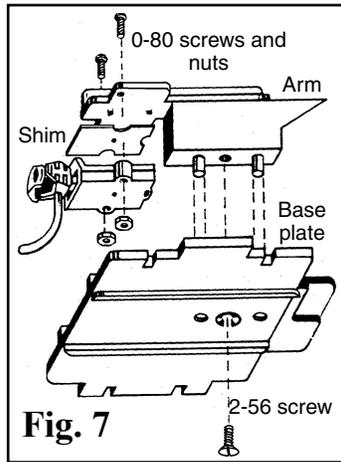

Fig. 7
to complete the assembly of the S-Scale height gauge. See Fig. 7. 8. Using the 2-56 screw enclosed, the arm can now be attached to the base plate. Insert the screw from the bottom of the base plate up and into the bottom of the arm assembly. The pointed car height gauge of the arm should be on the same end with the base's trip pin height gauge. Tighten the 2-56 screw to complete the assembly of the S-Scale height gauge. See Fig. 7.
7. It is recommended that you install the coupler assembly to the arm first. Place the .030" notched shim between top of coupler draft gear box and bottom of arm. See Fig. 7. The two pins will help align the box and the arm. Attach with enclosed 0-80 screws and nuts and tighten.